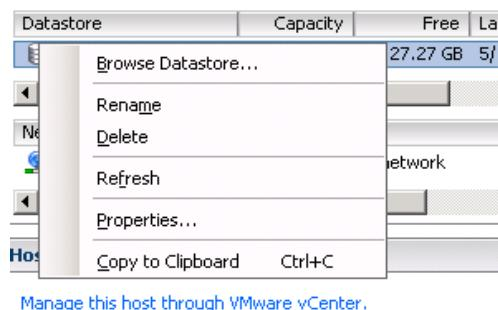

Figure 5-5. Selecting Browse Datastore
9. Right-click the storage icon, and then select **Browse Datastore** (Figure 5-5).